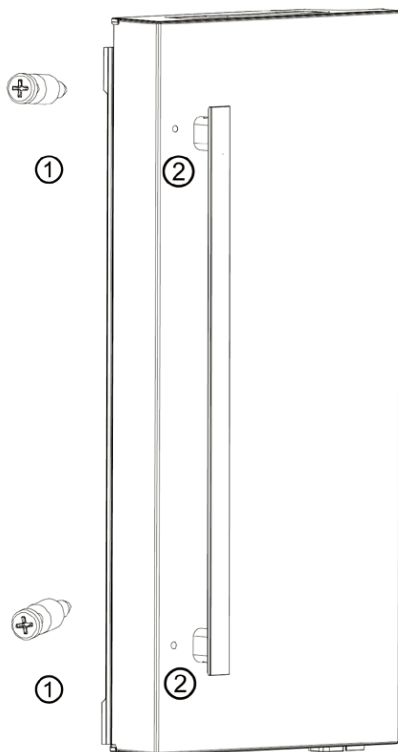

Figure 8
- 1) Take the bolts ① out of the accessories bag, then use the Phillips screwdriver to screw the bolts ① into the bolt holes ② in the refrigerator doors. See Figure 8.